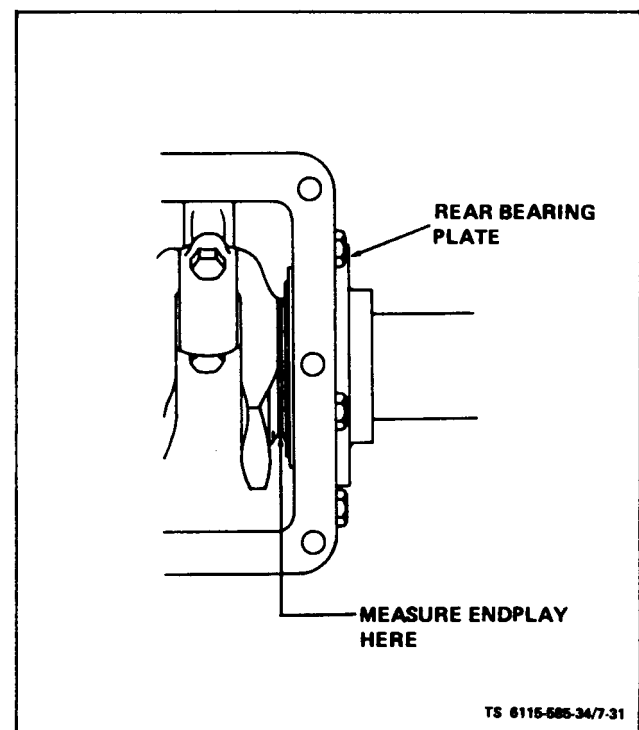

Figure 7-31. Crankshaft End Play Measurement
(7) Check crankshaft end play (see figure 7-31). Use enough rear bearing plate shims to provide 0.010 to 0.015 inch end play. If more than 0.010 inch total thickness is required then use a steel shim of proper thickness and an 0.005 inch thick gasket on each side of shim. This avoids excessive gasket compression and maintains bolt torque. Shims are available in 0.005, 0.010, 0.015, and 0.020 thickness.